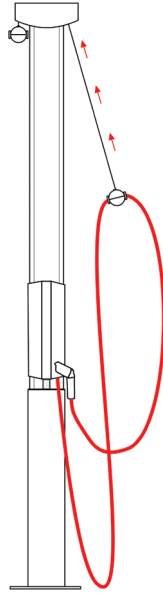

Figure 1.2 Charging cable midway point
- D. Find the approximate midway point of the charging cable. Without tightening the screws all the way, loosely attach the cable clamp to the charging cable and retract to the starting point. The cable should freely slide/move within the clamp. See Figure 1.2 (Charging cable midway point).